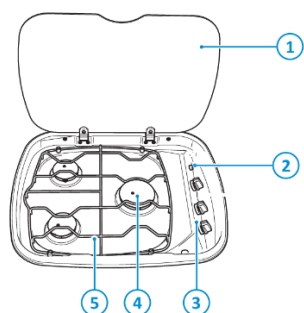

Fig: 3a
- Extend support leg and secure locking screw (Fig: 3a)